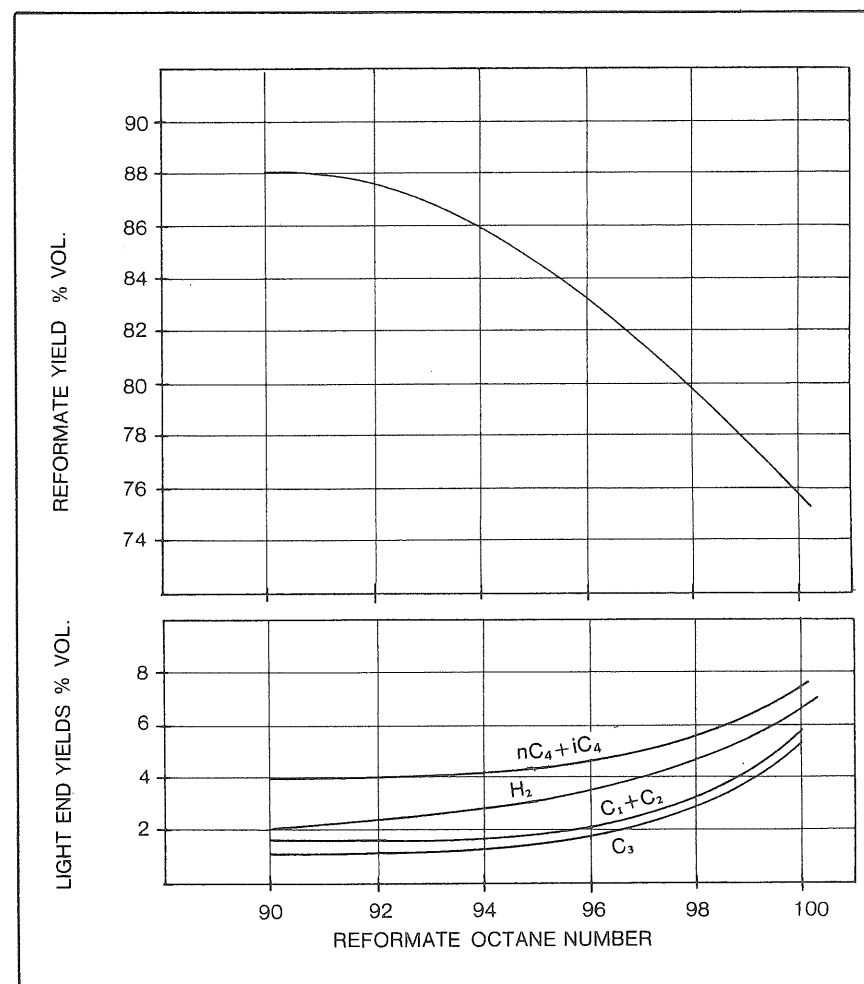

Fig. 9-3 —Cat Reformer Yields vs. Octane Number
The dials and buttons on a reformer that the engineers play with are the temperature, pressure, and residence time. The game is really a balance between the volume of the reformate and its quality. Fig. 9-3 shows the relationship: *as the octane number goes up, the percent volume reformate goes down*. Correspondingly, the yield of butanes and lighter goes up. So the operation of the cat reformer must be tuned in very closely with the gasoline blending operations and the gasoline component yields of the other processing units.
2. Suppose the reformer feed is 15 M B/D and the operating conditions are set to produce 91 octane reformate. The 91 octane reformate is worth 100¢/gal and the C4 and lighter streams are worth 50¢/gal. Each increase in octane number increases the reformate value by 1¢/gal. Does it make sense to increase the severity of the reformer, that is, run it to produce higher octane reformate? Use the yield versus octane number chart in Fig. 9-3. (Hint: check the economics at 91, 95, and 100 octane).